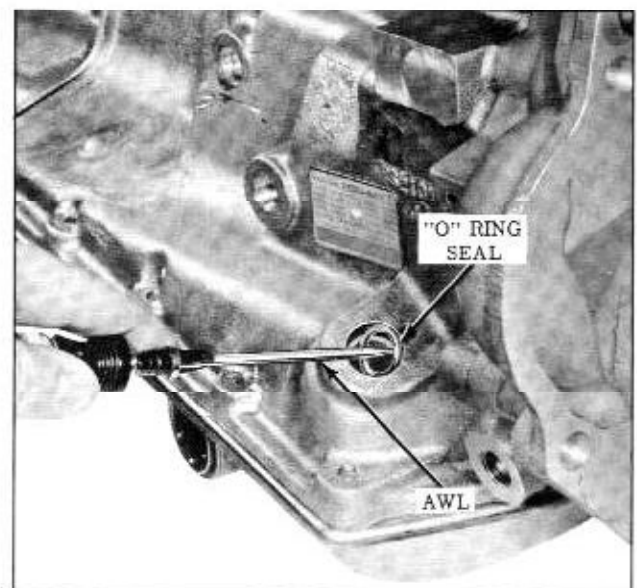

Fig. 3-23 Removing Filler Pipe "O" Ring Seal
1. Remove the transmission filler pipe "O" ring seal from side of transmission case before installing transmission in fixture. (Fig. 3-23)